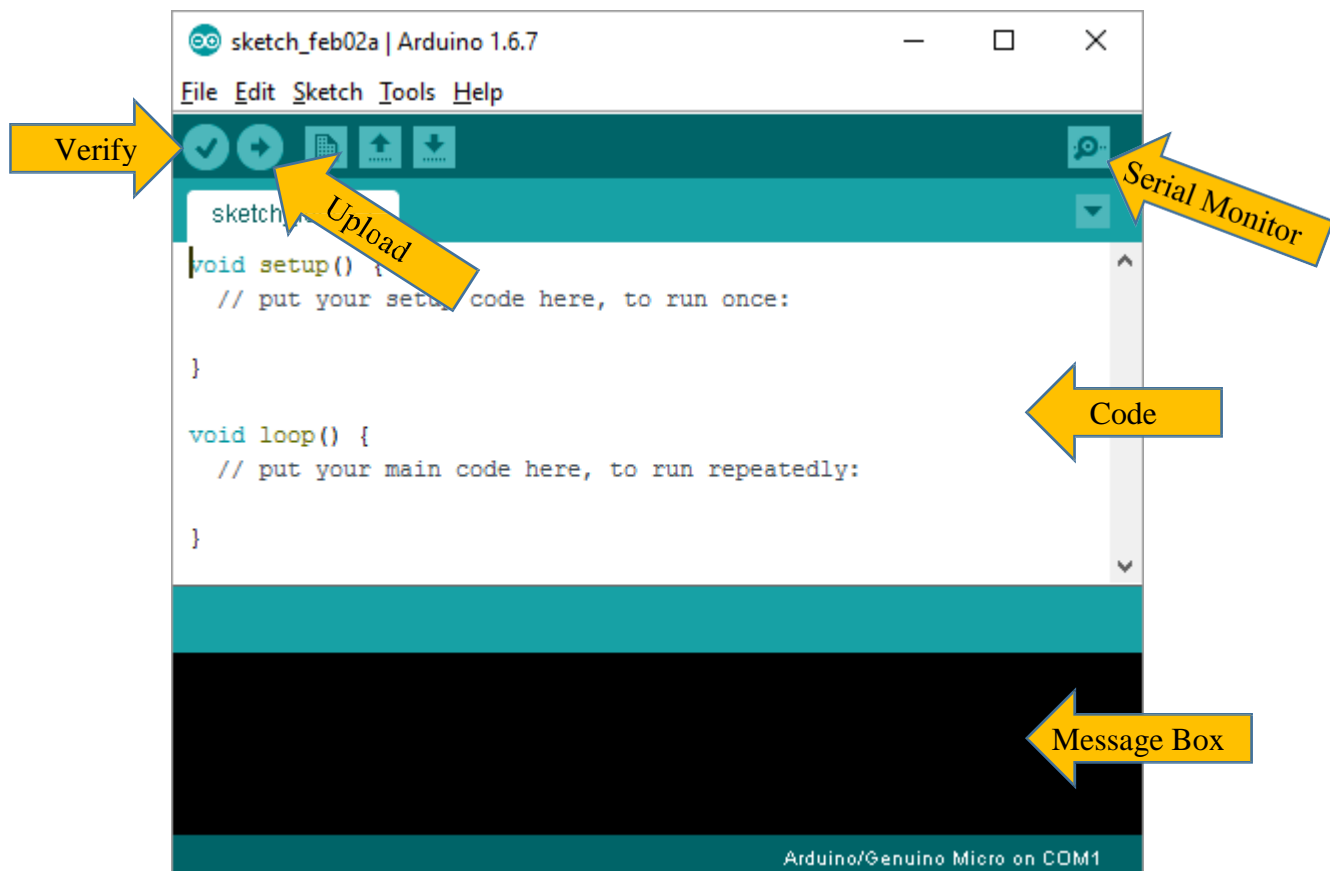

Figure 3. Arduino IDE initial sketch.
- 1 Search for arduino.exe. When you find the Arduino symbol, , click on it and the Arduino IDE will open. It should look something like what is shown in Figure 3. Arduino program files are called *Sketches*. When you start the Arduino IDE a new empty sketch appears. The Arduino IDE has an area where you type in code and a message box for the Arduino IDE to provide you with information. You should name the sketch you are writing and save it before compiling.